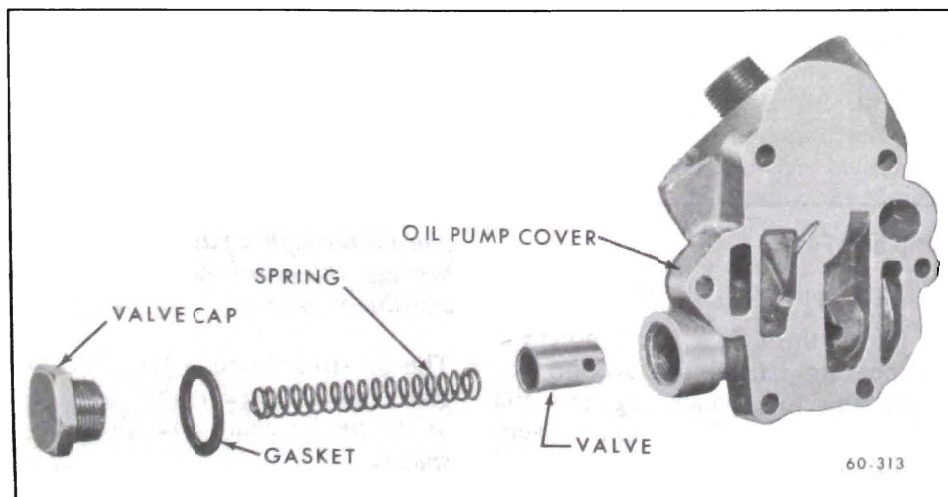

Figure 60-250 Oil Pump Cover and Pressure-Relief Valve
4. Remove the oil pressure relief valve cap, spring and valve. See Figure 60-250. Oil filter by-pass valve and spring are staked in place and should not be removed.
1. Lubricate and install pressure relief valve and spring in bore of oil pump cover. See Figure 60-250. Install cap and gasket. Torque cap to 35 lb. ft. with a reliable torque wrench. Do not over-tighten.